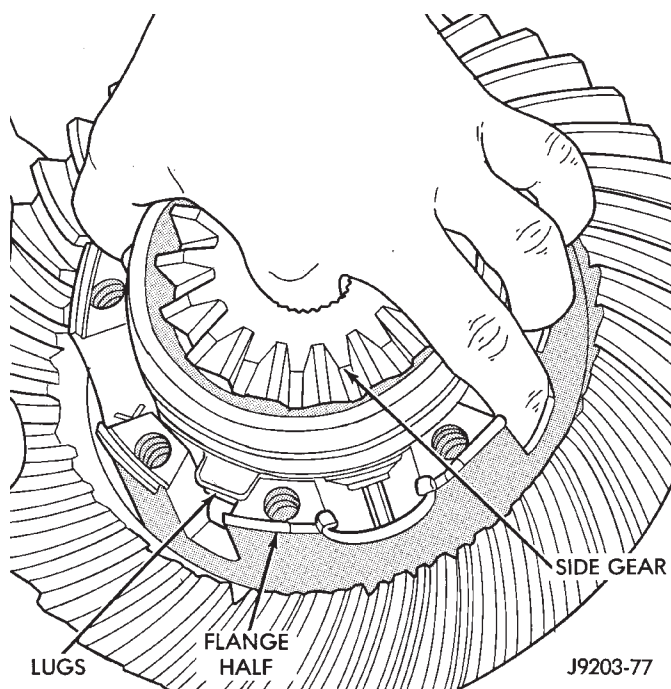
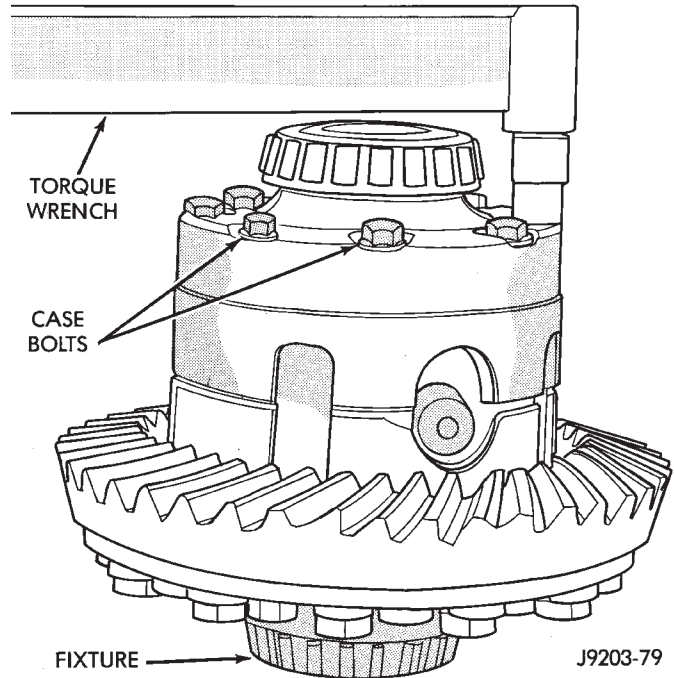

Fig. 52 Clutch Pack Installation
Fig. 54 Case Half Installation
(2) Line up the plate ears and install the assembled pack into the flange half (Fig. 52). Ensure that the clutch plate lugs enter the slots in the case. Also ensure that the clutch pack bottoms out on the case.
(4) Lubricate and install the other side gear and clutch pack (Fig. 52).
(5) Correctly align and assemble button half to flange half. Install case body screws finger tight.
(6) Tighten body screws alternately and evenly. Tighten screws to 89-94 N·m (65-70 ft. lbs.) torque (Fig. 54).